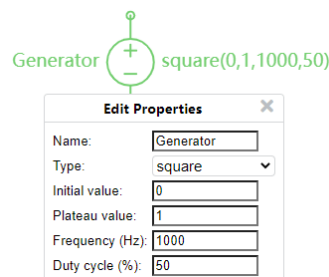

Fig. 12. Setting of the square signal.
- (ii) change the input step signal to a square signal, as shown in Fig. 12. Show and discuss your finding; and